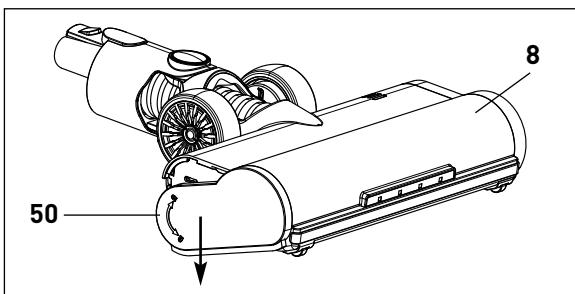
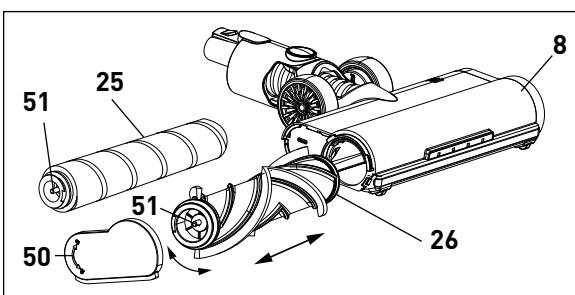

Figure 21
Figure 22
**21-23** - Turn the end cover (50) on the right-hand side of the Power Brush (8) downward (counterclockwise) to unlock and then remove the end cover (figure 21). Pull the brush out (figure 22) and remove any hair or string.